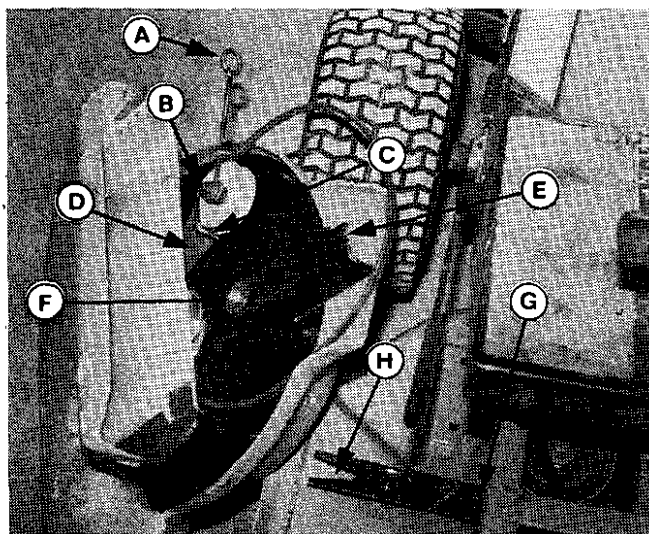

Figure 5.
7. The belt retainer (A, figure 5) must be positioned correctly. Loosen the nut (B) and position the leg (C) so it is against the side of the idler arm (D). Then, tighten the nut (B).
8. Install the blower assembly (figure 5) onto mower deck as follows. Note that the notch (E) will be placed onto small spacer (G) on top of the strap. The blower assembly spacer (F) will fit into the strap notch (H).